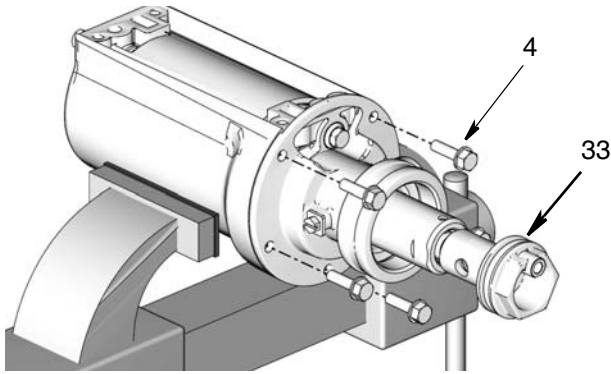
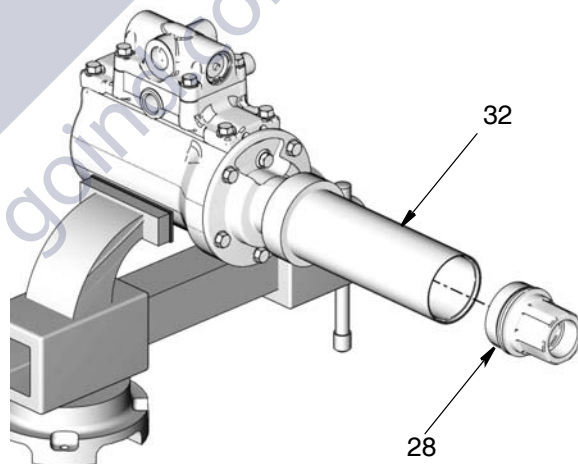

Fig. 16
Fig. 18
10. Secure assembly in vise as shown in Fig. 16. Install 5 screws (4) wrench tight only.
**NOTE:** If installing a new air cylinder (27) the mating holes are not threaded by design. Use thread forming screws (4) to form threads as they are being installed. Torque to 95-105 in.-lbs (10.7 to 11.8 N.m) to ensure full thread formation.
11. To ensure there is a proper seal between the air valve and manifold, loosen all 5 screws (4) approximately 1/4 turn Fig. 16). These screws will be torqued **AFTER** the air valve is installed (38) (Step
- a. Remove the 4 screws (43).
- b. Remove the air valve (38) from its current mounted position on the air cylinder (27) and rotate the air valve 180 degrees, which will reposition the muffler to face the other side of the pump.
16. Install new o-rings around pump piston (33) (Fig. 16) fluid cylinder (32) and intake valve housing (28) (Fig. 18) as described in the O-Ring Replacement Kit 24H855 or 24K293, page 11. Be sure to apply a thin coat of water-resistant grease to all o-rings and seals.
17. Install the fluid cylinder (32) over the displacement rod (3), threaded end first. Hand tighten and then torque to 20-25 ft. lbs (27-34 N.m) (Fig. 18).
**NOTE:** It is not necessary to torque the fluid cylinder in this step. Everything will be torqued simultaneously in Step 16 with the intake housing (28).
18. Install the intake valve (28) housing on the end of the fluid cylinder (32). Hand tighten and then torque to 20-25 ft. lbs (27-34 N.m) (Fig. 18).